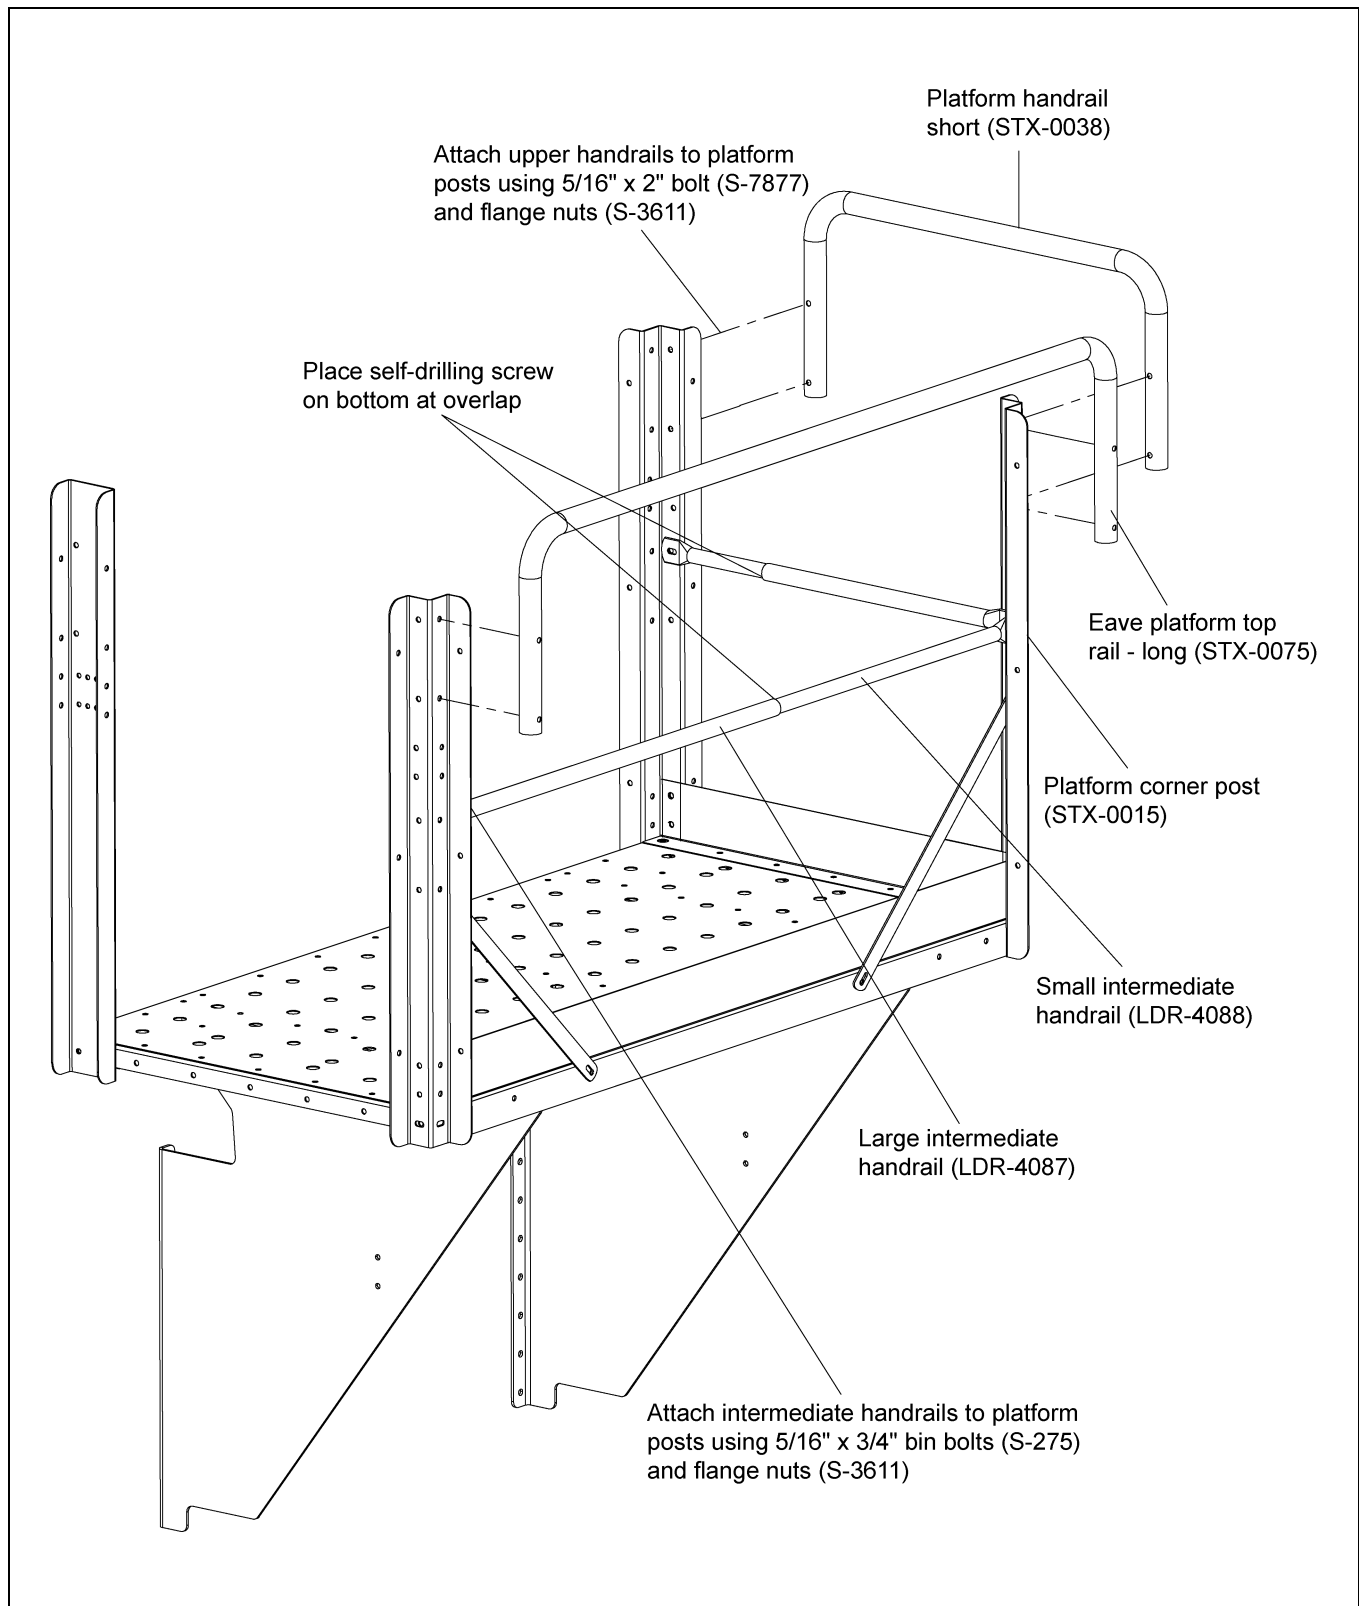

Figure 4D
5. Figure 4D shows the assembly of the platform handrails. These must also be attached using 5/16" hardware.